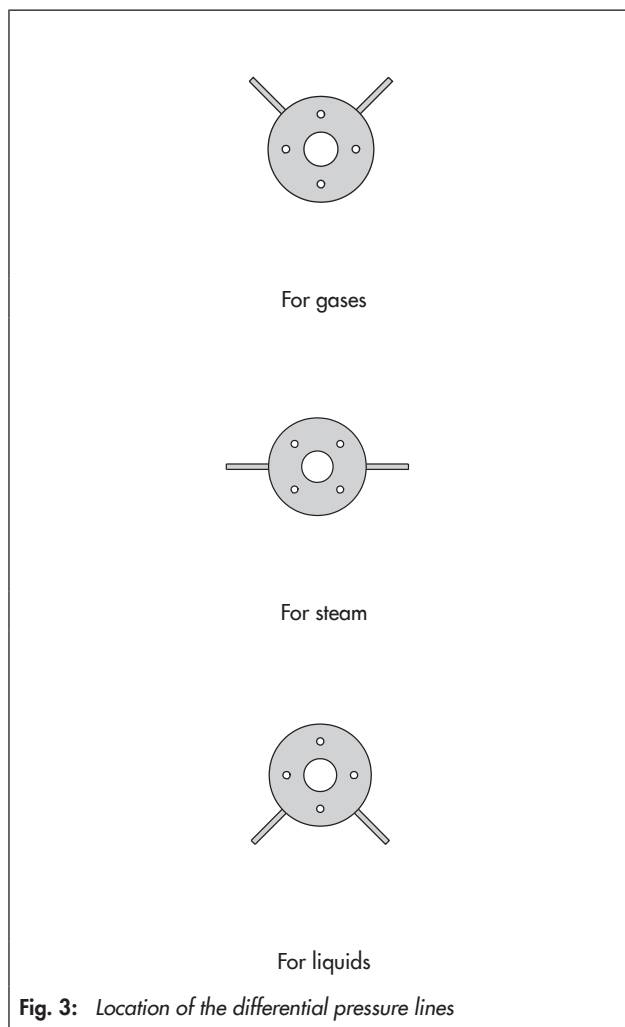

Fig. 3: Location of the differential pressure lines
- Fig. 3 shows the location of the differential pressure lines.